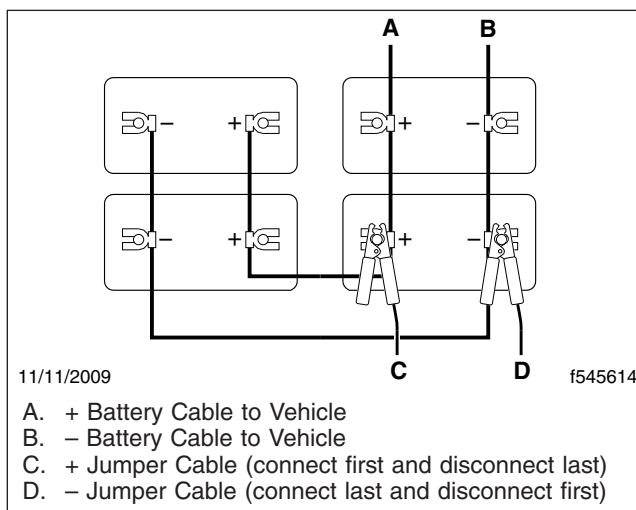

Fig. 23.2, Jumper Connections
3. Connect the positive (+) jumper cable to the positive battery post on the vehicle needing the jump start, then connect the other end of the positive jumper cable to the positive battery or jump start post of the vehicle providing the jump. See Fig. 23.2.